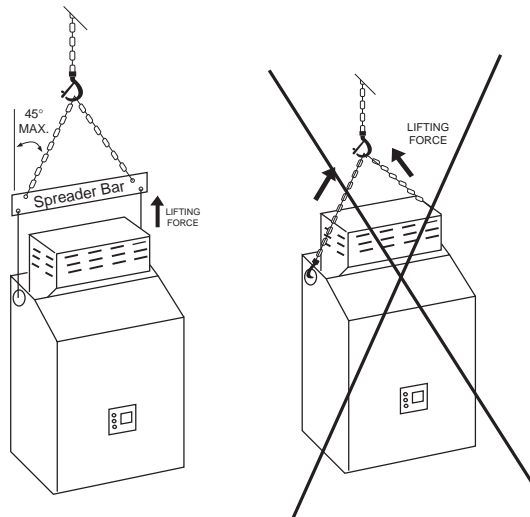

Figure 6: Hoisting the ATS46 Controller
- With a hoist. When hoisting the controller, attach a spreader bar to the two lifting rings on top of the controller as shown in Figure 6.
Keep area below any equipment being lifted clear of all personnel and property. Use lifting method shown in left-hand portion of Figure 6.